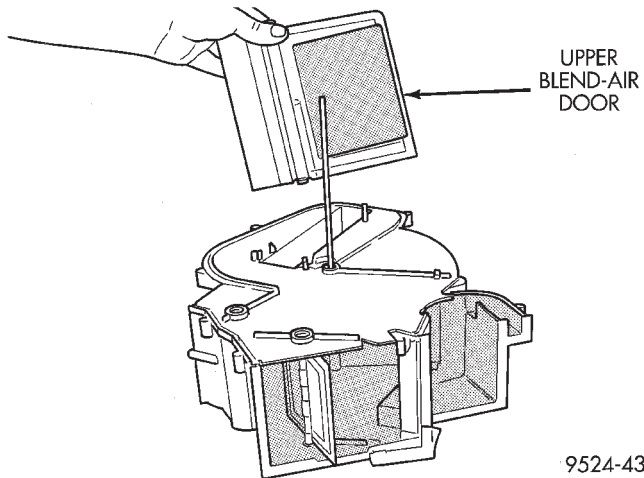

Fig. 76 Blend-Air Door
- (23) Remove upper half of the blend-air door (slide off of shaft) (Fig. 76).